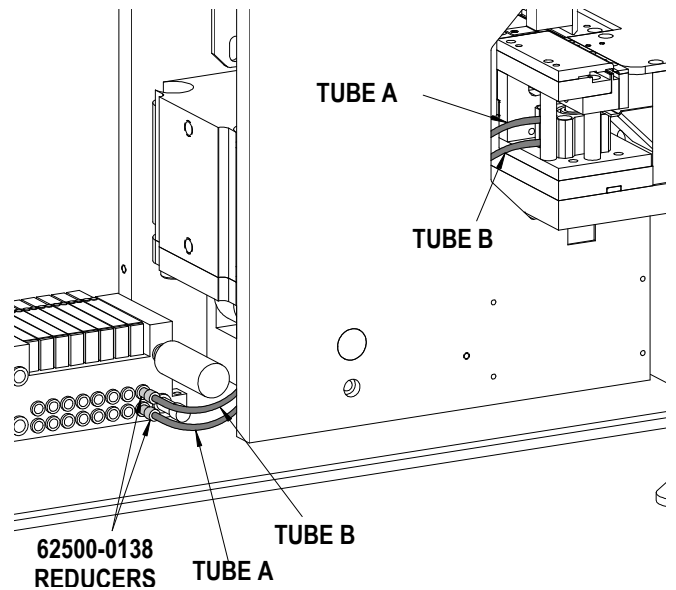

Figure 4-6 (With Cover removed)
1. Remove the two (2) plugs from the spare valve (#8).
3. Cut the piece of tubing supplied with the breakoff kit into two suitable lengths to run as shown in Figure 4-6.
5. Connect the other ends of the tubes to the breakoff cylinder as shown in Figure 4-6. Tube "A" connects from the "A" (bottom) port on the valve manifold to the top port of the breakoff cylinder, and the "B" tube connects from the "B" (upper) valve manifold port to the bottom port of the breakoff cylinder. See also the Pneumatic Schematic at the end of Section 6.